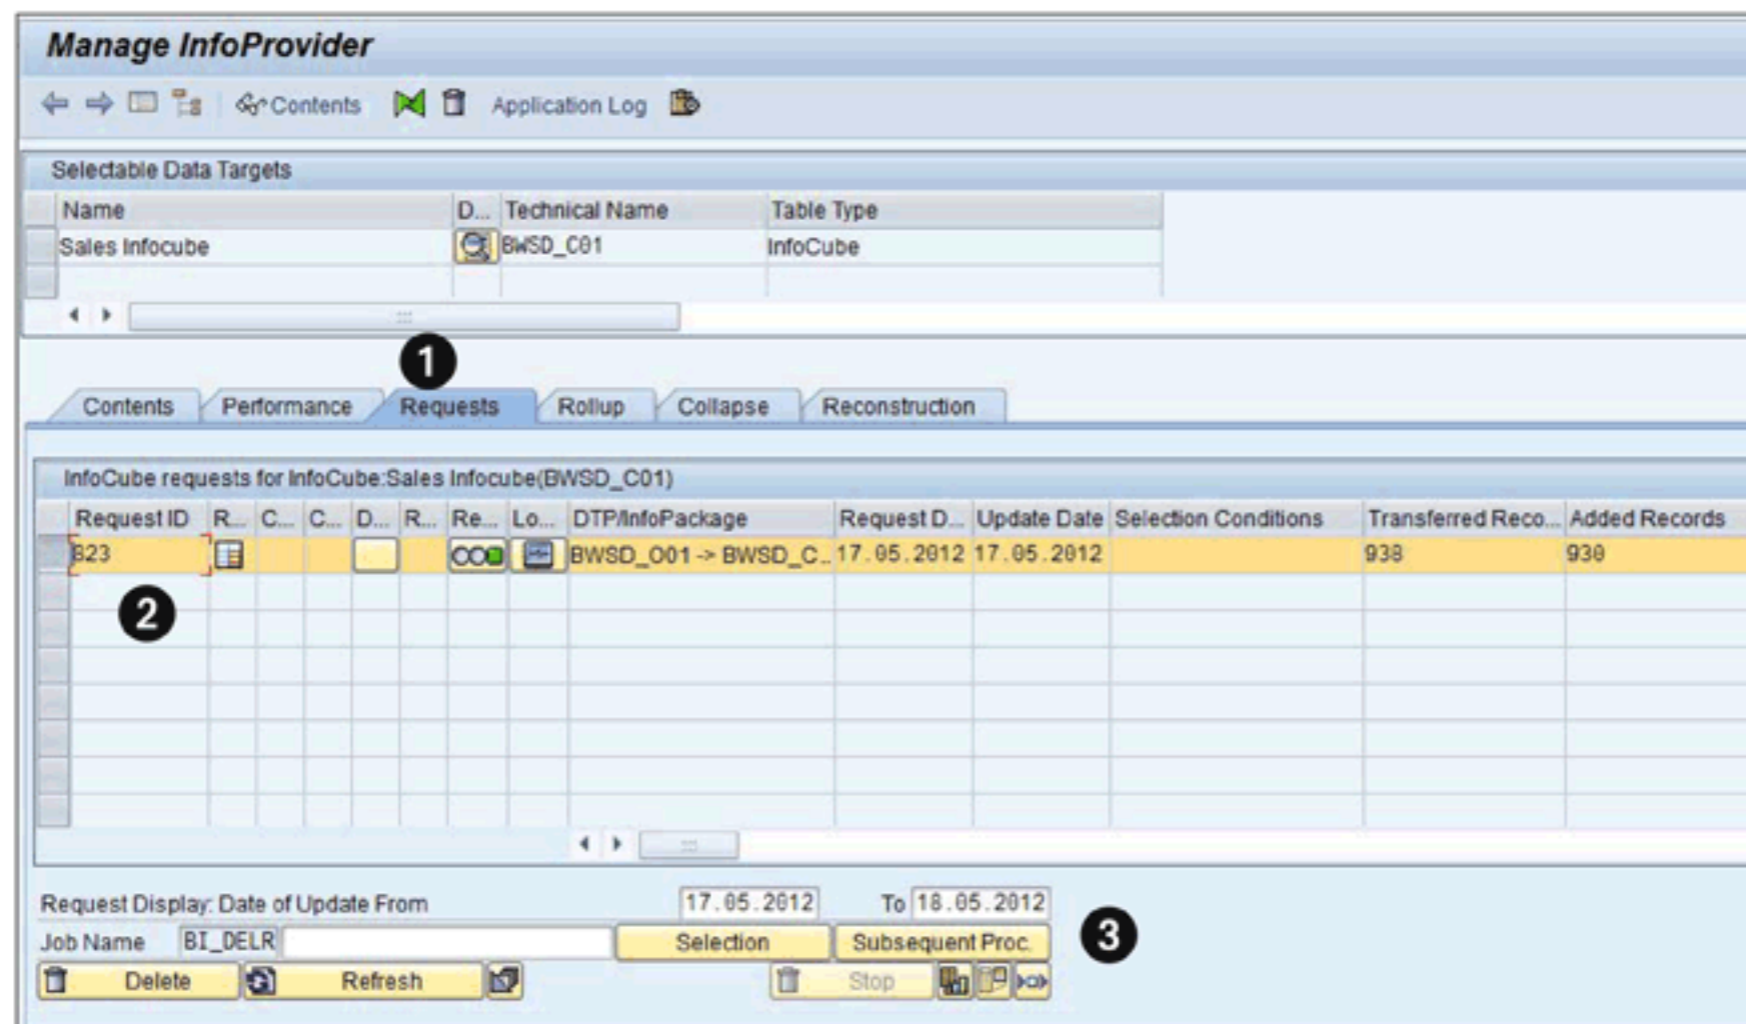
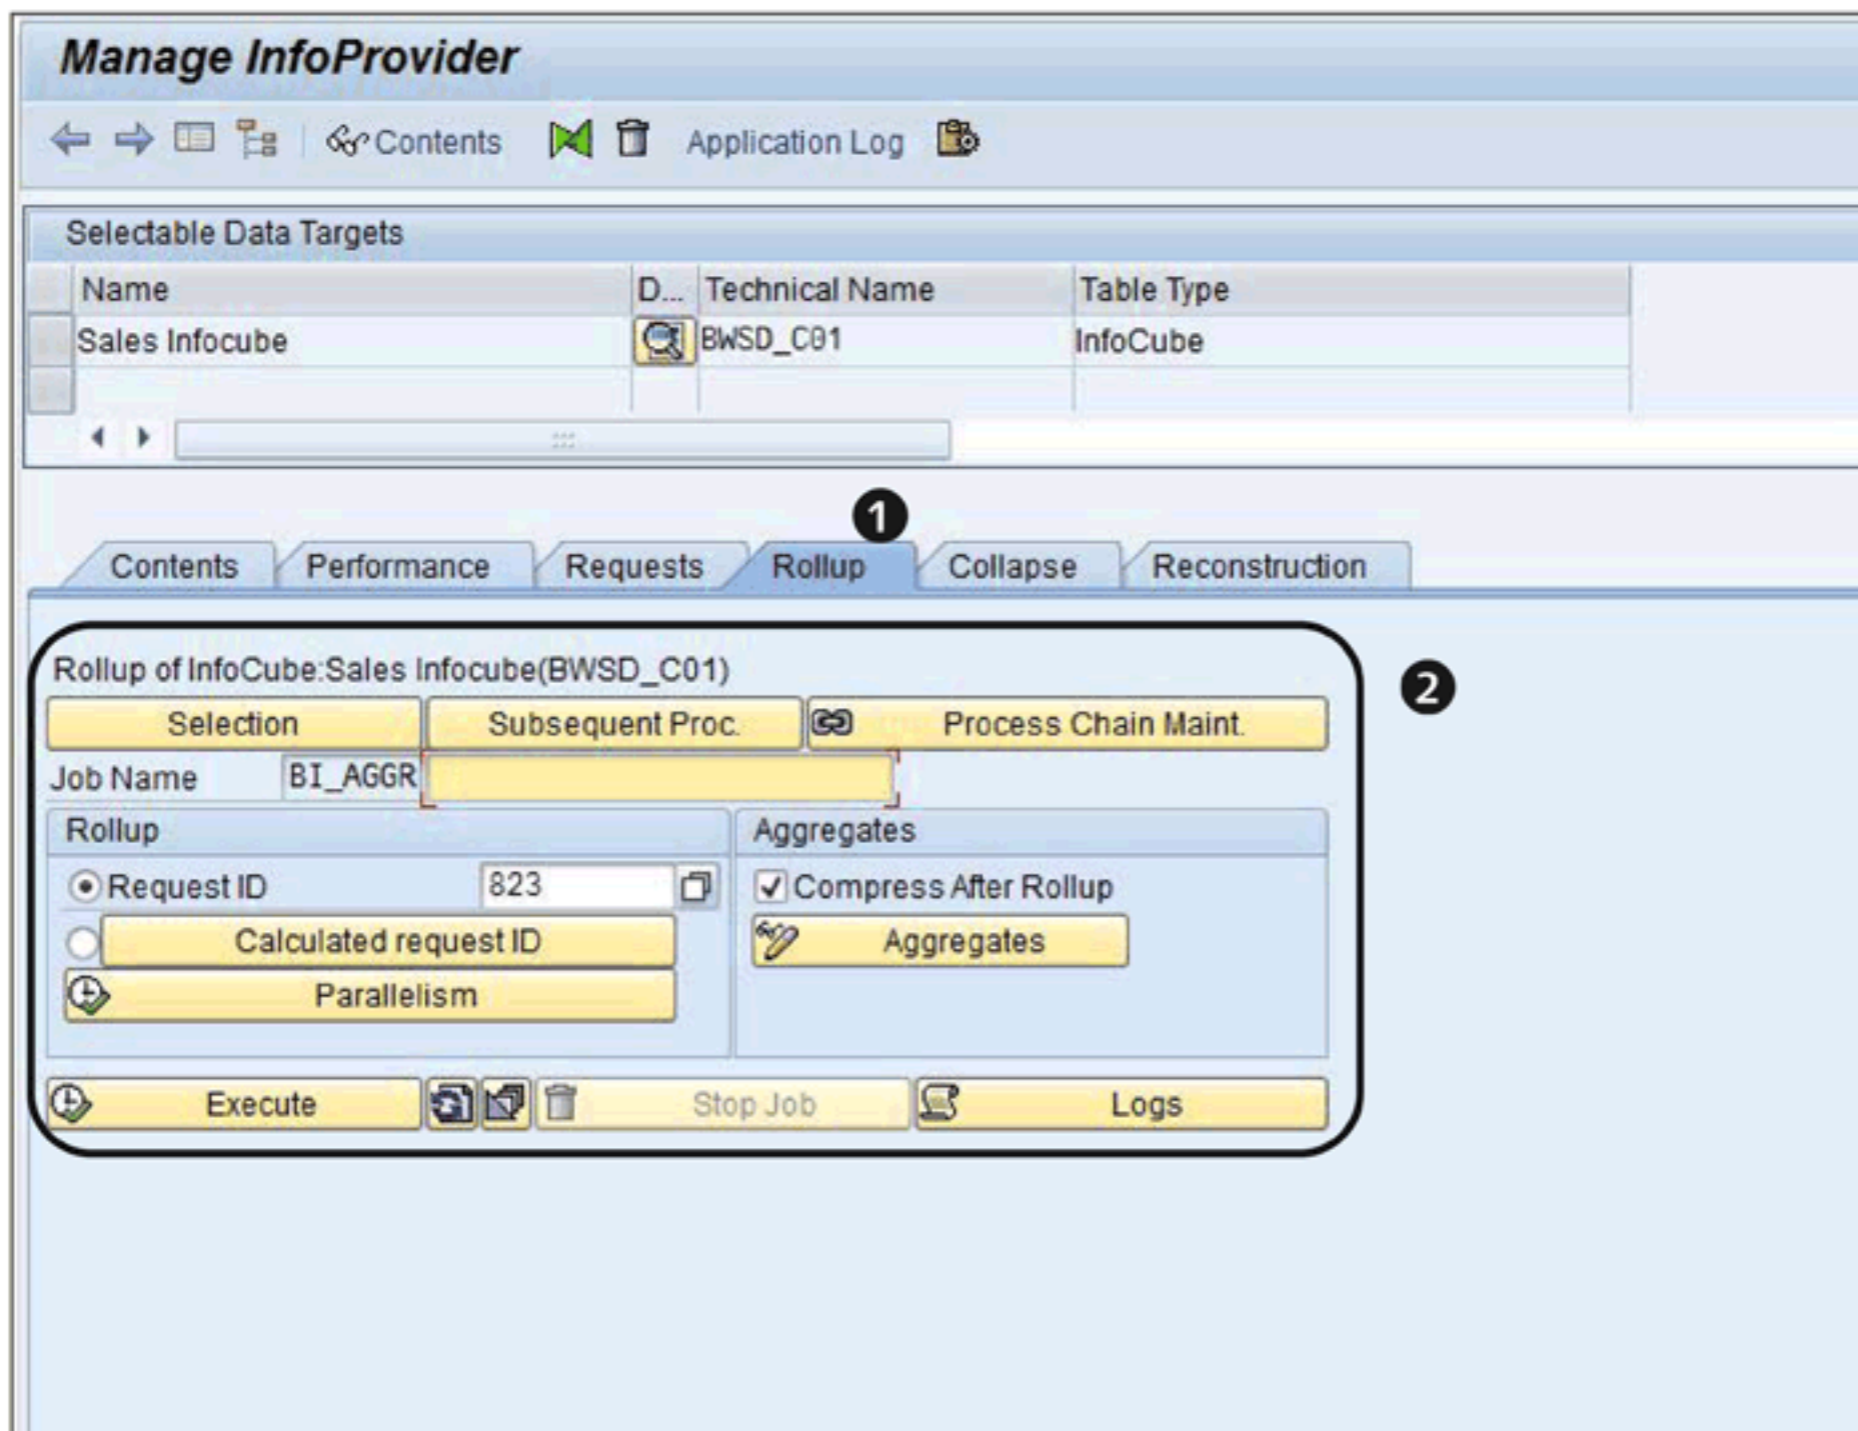
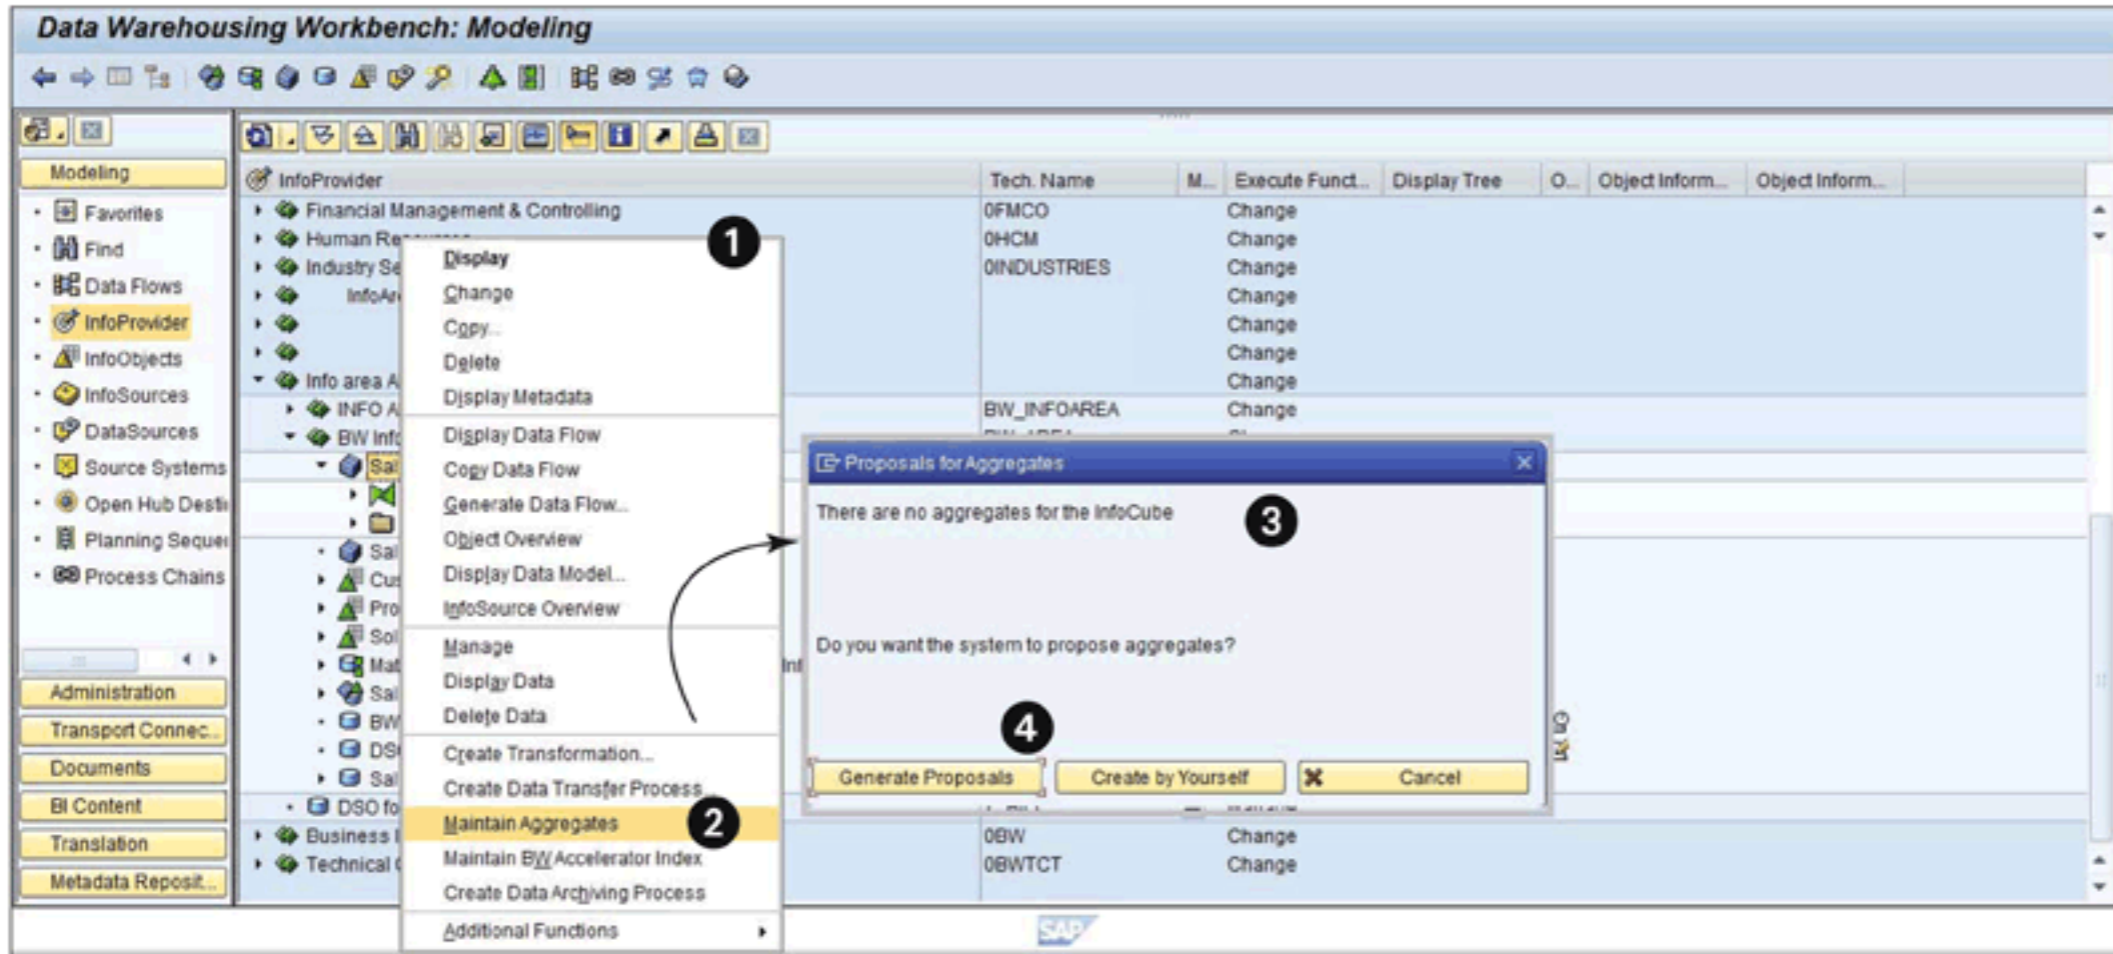
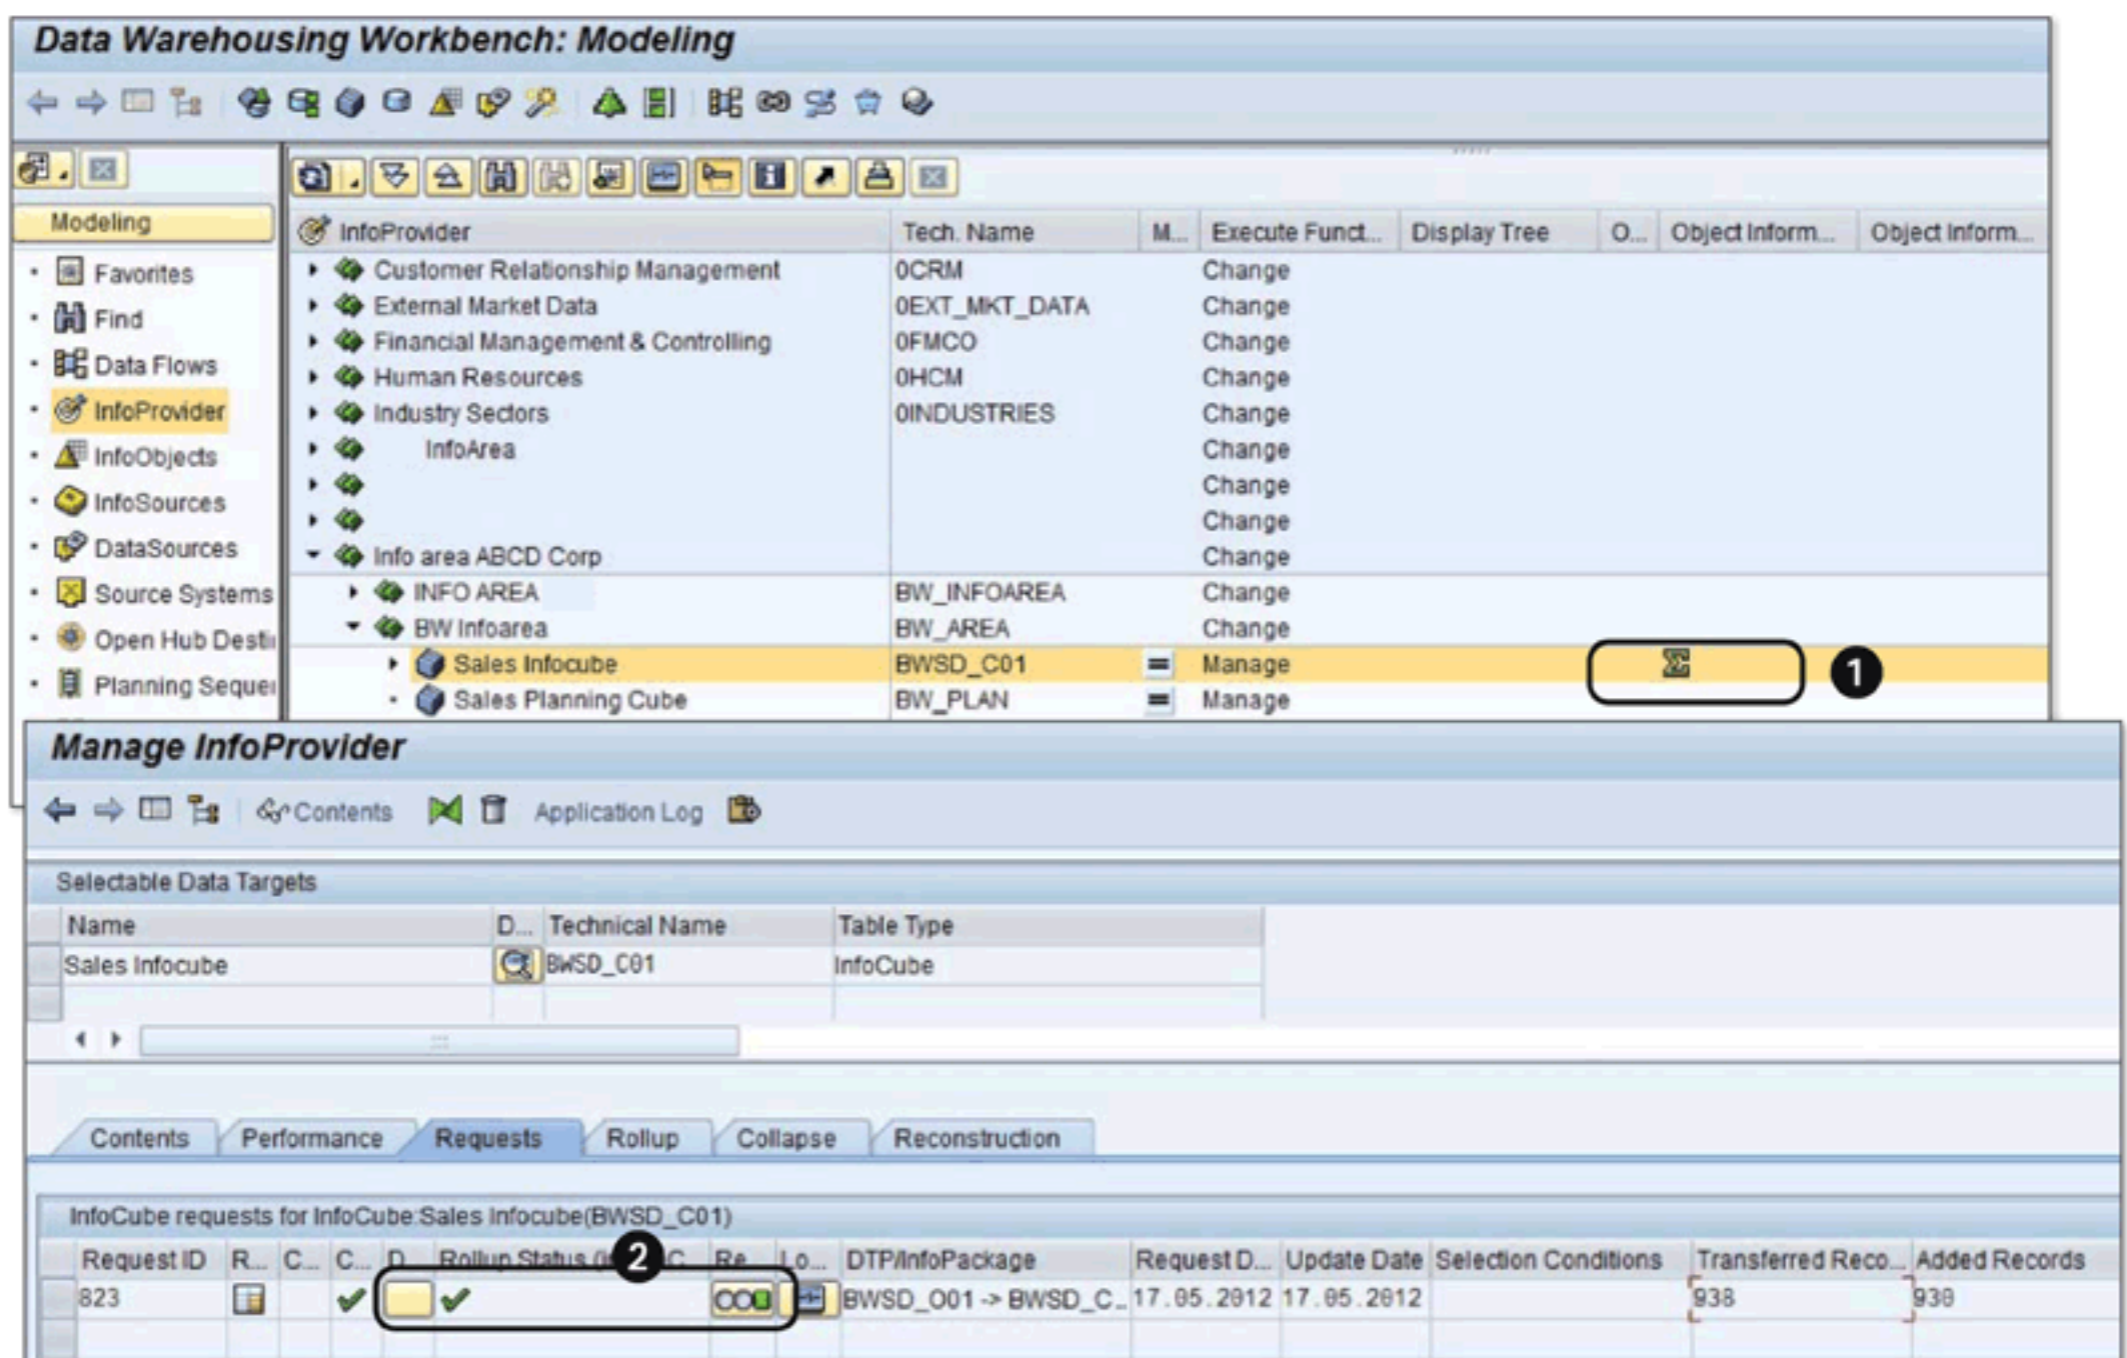

Figure 14.15 Request Tab for InfoCube Administration
Figure 14.16 Rollup Tab for InfoCube Administration
Figure 14.20 Maintain Aggregates for InfoCubes
Figure 14.27 InfoCube with Aggregate
In the REQUESTS tab (1 of Figure 14.15), the lower part of the screen shows administration and maintenance task buttons for requests (2), and the lowest part of the screen provides buttons for execution of these tasks (3).
The ROLLUP tab (1 of Figure 14.16) has buttons that replicate part of the InfoCube data into a summarized subset called an aggregate. We explain the concept of aggregates in more detail in Section 14.3.
There are multiple options for identifying and creating aggregates, such as manual creation or the use of the AGGREGATE button (which is found in the ROLLUP tab in the INFOPROVIDER ADMINISTRATION screen of an InfoCube; refer to Figure 14.16). In this section, we focus on manual creation of aggregates. To begin, choose MAINTAIN AGGREGATES from the context menu of the InfoCube (1 and 2 of Figure 14.20). If there are no aggregates defined for this InfoCube, the PROPOSALS FOR AGGREGATES pop-up box appears (3). You can select GENERATE PROPOSALS for the system to propose aggregates or click on the option CREATE BY YOURSELF to manually create the aggregate (4).
After the aggregate is created and activated, the information for the InfoCube gets added to it. Compare the details in the OBJECT INFORMATION for the InfoCube BWSD_C01—both before the aggregate is created (Figure 14.20) and then again after the aggregate is created. Note that the SUM icon is now visible for InfoCube BWSD_C01 (1 of Figure 14.27).
Now compare the REQUEST tab of the InfoCube for BWSD_C01 (Figure 14.15) with the same tab in Figure 14.27, and you'll notice that there are additional details reported (2). To maintain integrity in reporting, the new InfoCube data isn't available for reporting until the request is successfully rolled up into all of the aggregates for the cube. After a successful rollup, the request record in the REQUESTS tab for the InfoCube will be marked with the OK status (✓).